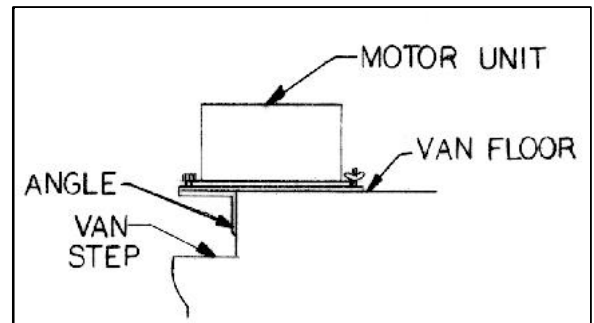

FIGURE 2-1: SIDE DOOR INSTALLATION
5. Refer to **Figure 2-1**. For side door installations, it may be necessary to locate the door operators partially over the step to obtain the correct opening action. This can be simplified by supporting the end of each mounting plate on a metal angle that bolts to the step riser. In order to leave as much usable floor space as possible, the floor is extended across the step and the lift is positioned farther outboard. When this is done, the door operators should rest on the floor extension.